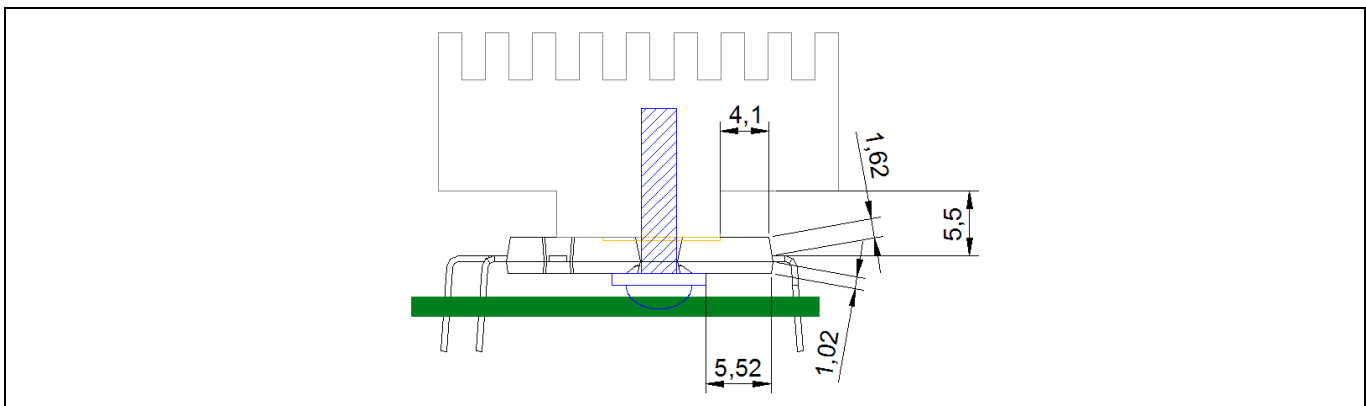

Figure 42 Recommended heatsink shape to get creepage and clearance distance between pins and heatsink
The electric spacing specifications of IM818 are shown in Table 26. The IM818 package (DIP 36X23D) does not satisfied clearance and creepage distance between pins and heatsink (earthed) and creepage distance on PCB between signal pins such as (2) to (3), (4) to (5), (6) to (7). Based on IEC and UL standards, to secure a clearance and creepage distance between the pins and the heatsink (earthed), a convex-shaped heatsink is necessary as shown in Figure 42, and the PCB slot is required to keep 4.0 mm creepage on the PCB between the signal pins.